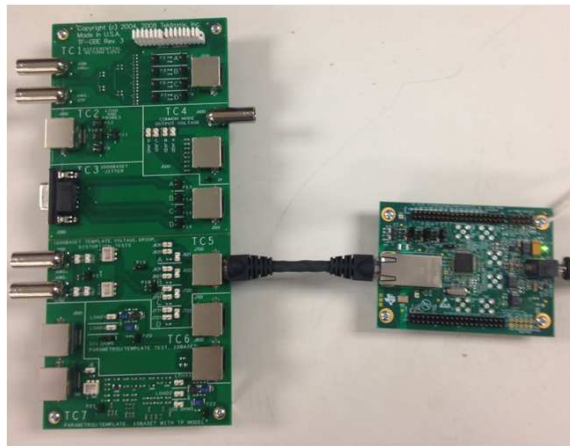

Figure 1. DP83867 EVM Connected to Testing Fixture Through CAT5 Cable
- Step 2. Connect the EVM to the test fixture according to setup outlined in the test fixture or software manual (see Figure 1). Identify if a link partner (packet generator) is needed for the test, and connect accordingly.